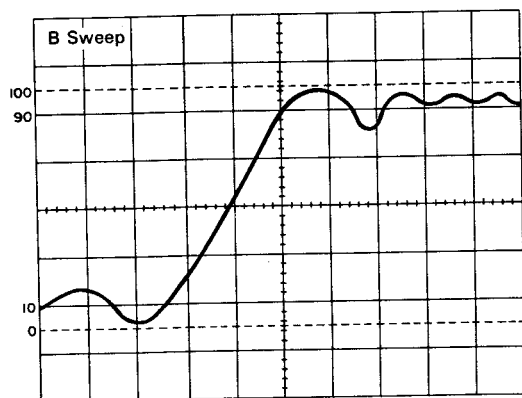

Fig. 14 Magnified view of intensified zone above
4. Set the HORIZ MODE to B to display the INT intensified portion as a magnified B sweep. (Fig. 14)